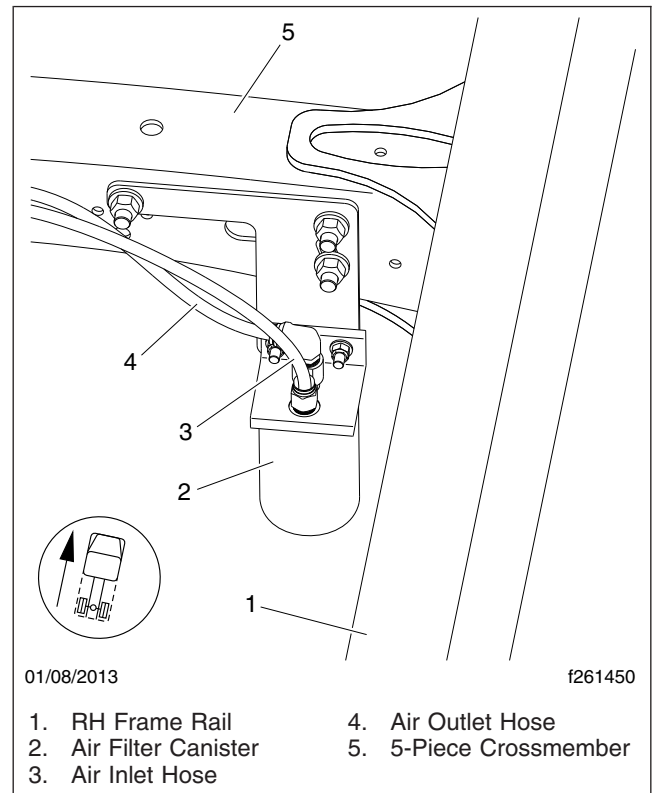

Fig. 6, Detroit Transmission Air Filter (typical installation)
3. Remove the air filter canister, located between the main air system and the transmission reserve air tank. See Fig. 6.